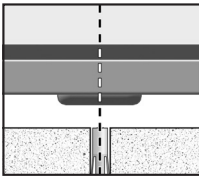

Figure 5
5. Place the safe back into position lined up over the hole (Figure 5).